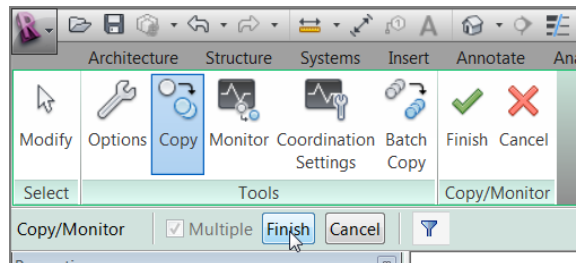

FIGURE 20.7: The Finish button on the Options bar
7. When you're finished, click Finish on the Options bar, as shown in Figure 20.7.